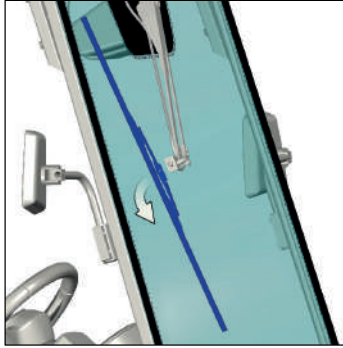

Figure 12-6 Replacing the wiper blade
- Remove the blade as shown in the figure (see Figure 12-6).
- Replace the new blade in the same way (see Figure 12-6).